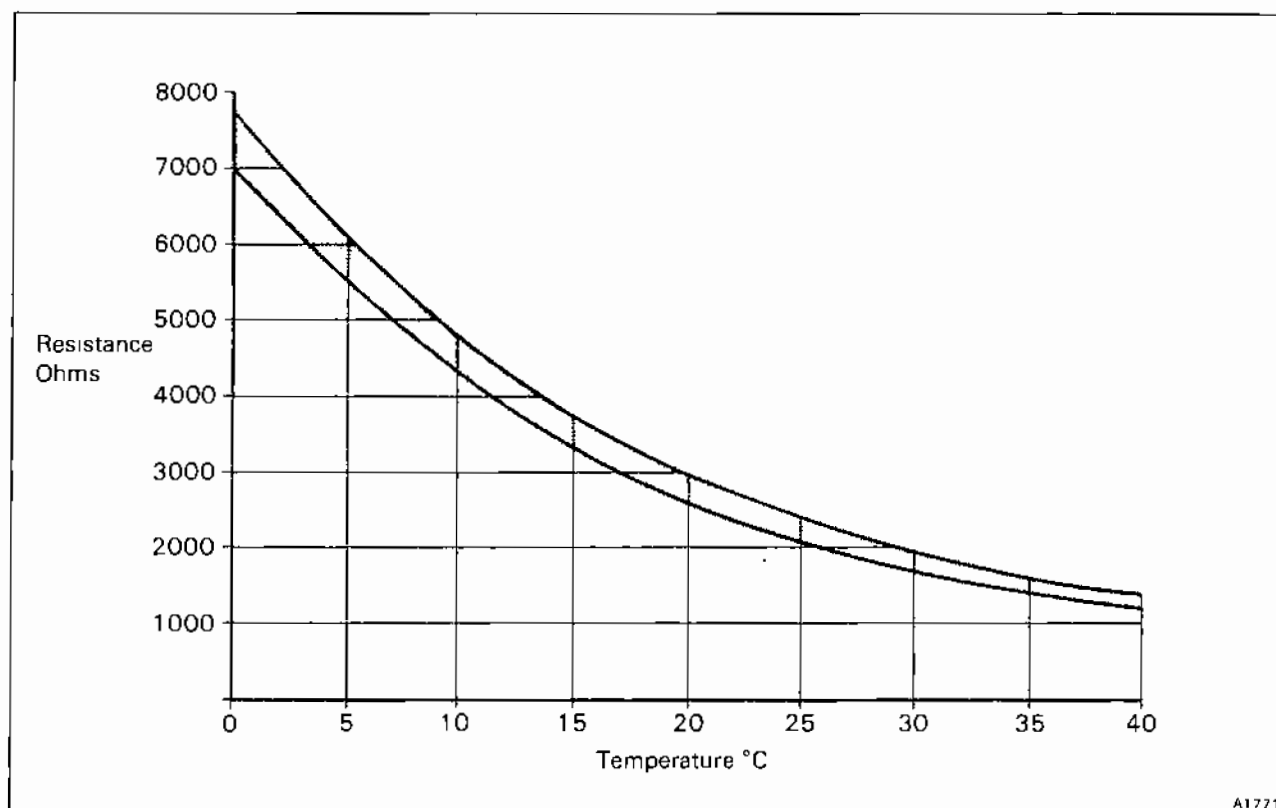

Fig. C4-3 Temperature sensor resistance graph
- b. Compare the resistance measurement with the temperature/resistance graph shown in figure C4-3